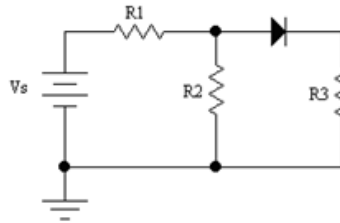

Figure 6.3
3. Calculate the  $I_D$  for Figure 6.3, with  $V_S = 3V$ ,  $D_1 = 1N4001$ ,  $R_1 = 100\ \Omega$ ,  $R_2 = 220\ \Omega$ ,  $R_3 = 100\ \Omega$ . Show all computer simulation.
3. Construct the circuit of Figure 6.3, measure the value of  $I_D$  and  $V_D$ .